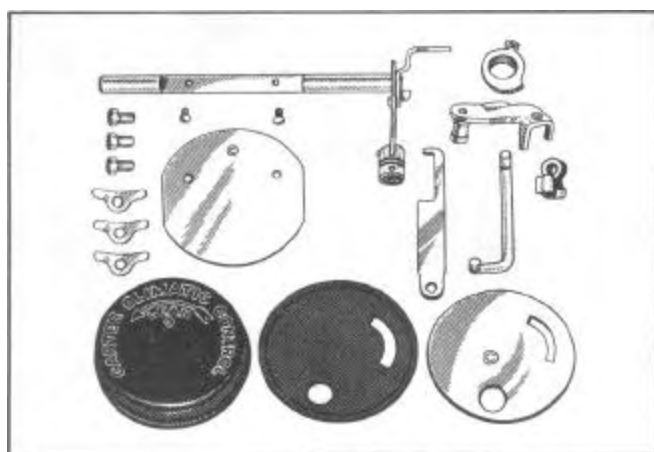

FIGURE 64
5. Group all parts controlling choke operation, Figure 64.